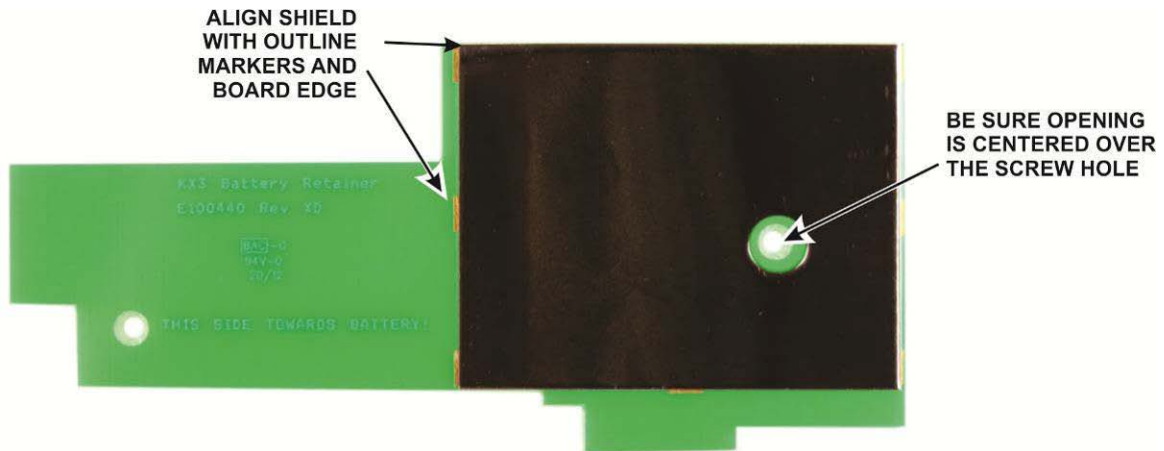

Figure 26. Positioning the Shield on the Battery Retainer.
□ Locate the area on the battery retainer marked “Affix Shield Here”. Peel the protective back covering off of the large metal shield and align the shield carefully with the lines and edges of the retainer as shown in Figure 26 with the hole over the screw opening. Work over the entire surface, squeezing the shield against the retainer. You may notice a slight dimple appear where it covers the screw installed in the previous step. That is normal.